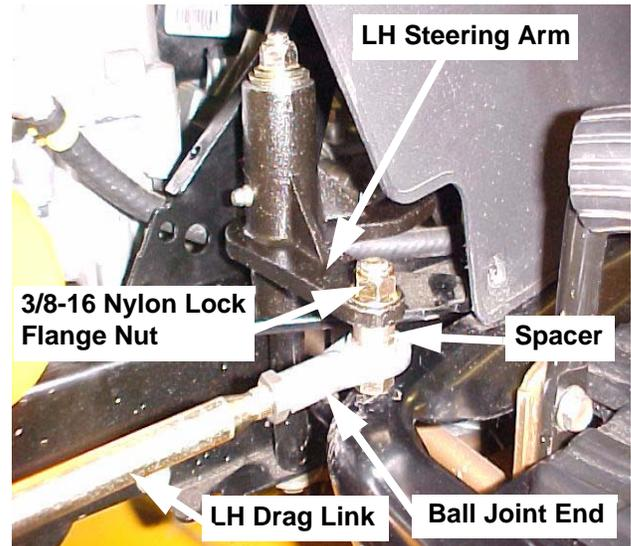

FIGURE 19
33. Connect the ball joint end of the LH drag link to the 3/8" hole in the LH steering arm. Use the remaining 3/8-16 nylon lock flange nut (Ref.#5 Figure 14) and tighten securely. **NOTE:** The spacer is positioned between the ball joint and LH steering arm. See Figure 19.